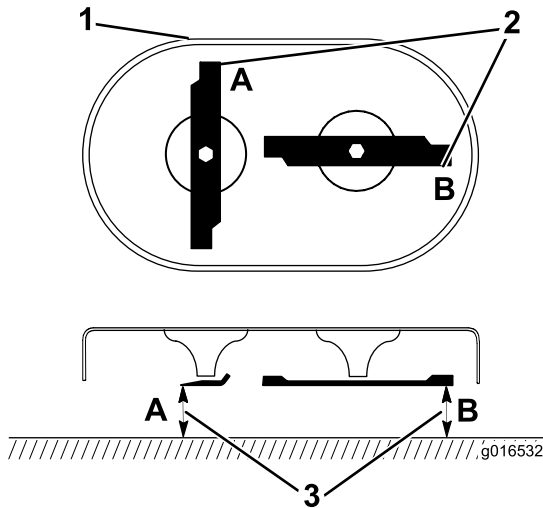

Figure 33
1. Rotate the blades to the position shown in Figure 33.
2. Measure from a level surface to the cutting edges at locations A and B (Figure 33), and record both dimensions.
3. Rotate the blades so that their opposite ends are at locations A and B (Figure 33).